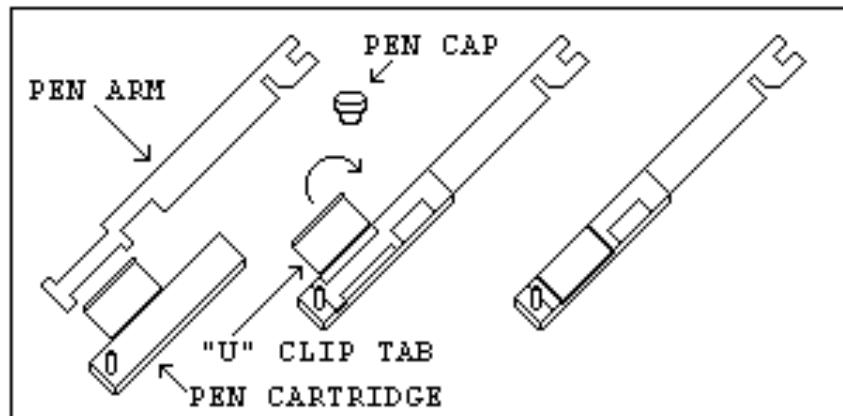
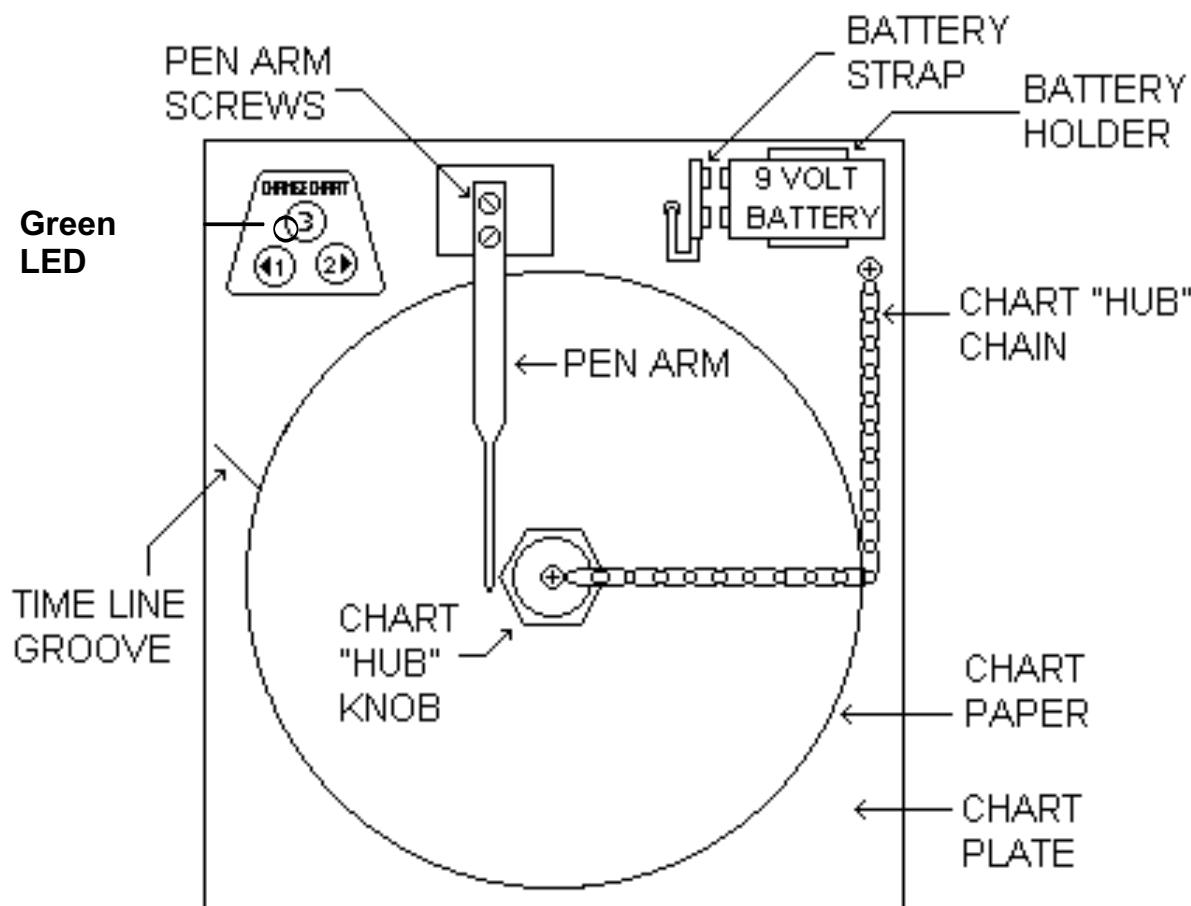

Figure 2.8 Pen Replacement
Figure 2.10 Recorder Platen
Unscrew the chart "hub" knob at the center of the chart. Remove the old chart paper and position the new one so that the correct time line coincides with the time line groove on the chart plate. Refer to Figure 2.10 (Page 17) for the location of the time line groove.
For ease of replacement, it is suggested that the two (2) screws that hold the pen arm be loosened and the pen cartridge and metal pen arm be removed as an assembly. Refer to Figure 2.10 (page 17) for the location of the pen arm screws. Unsnap the plastic "U" clip tab of the pen cartridge from the metal pen arm, remove and discard the old pen cartridge. Replace the new cartridge by opening the hinge and snapping it securely around the metal pen arm. Refer to Figure 2.8 for pen cartridge replacement.
The battery strap and battery holder are located on the front of the chart plate (refer to Figure 2.10). In order to change the battery, you must open the recorder case door. Note: Use only NEW 9 volt alkaline replacement batteries.